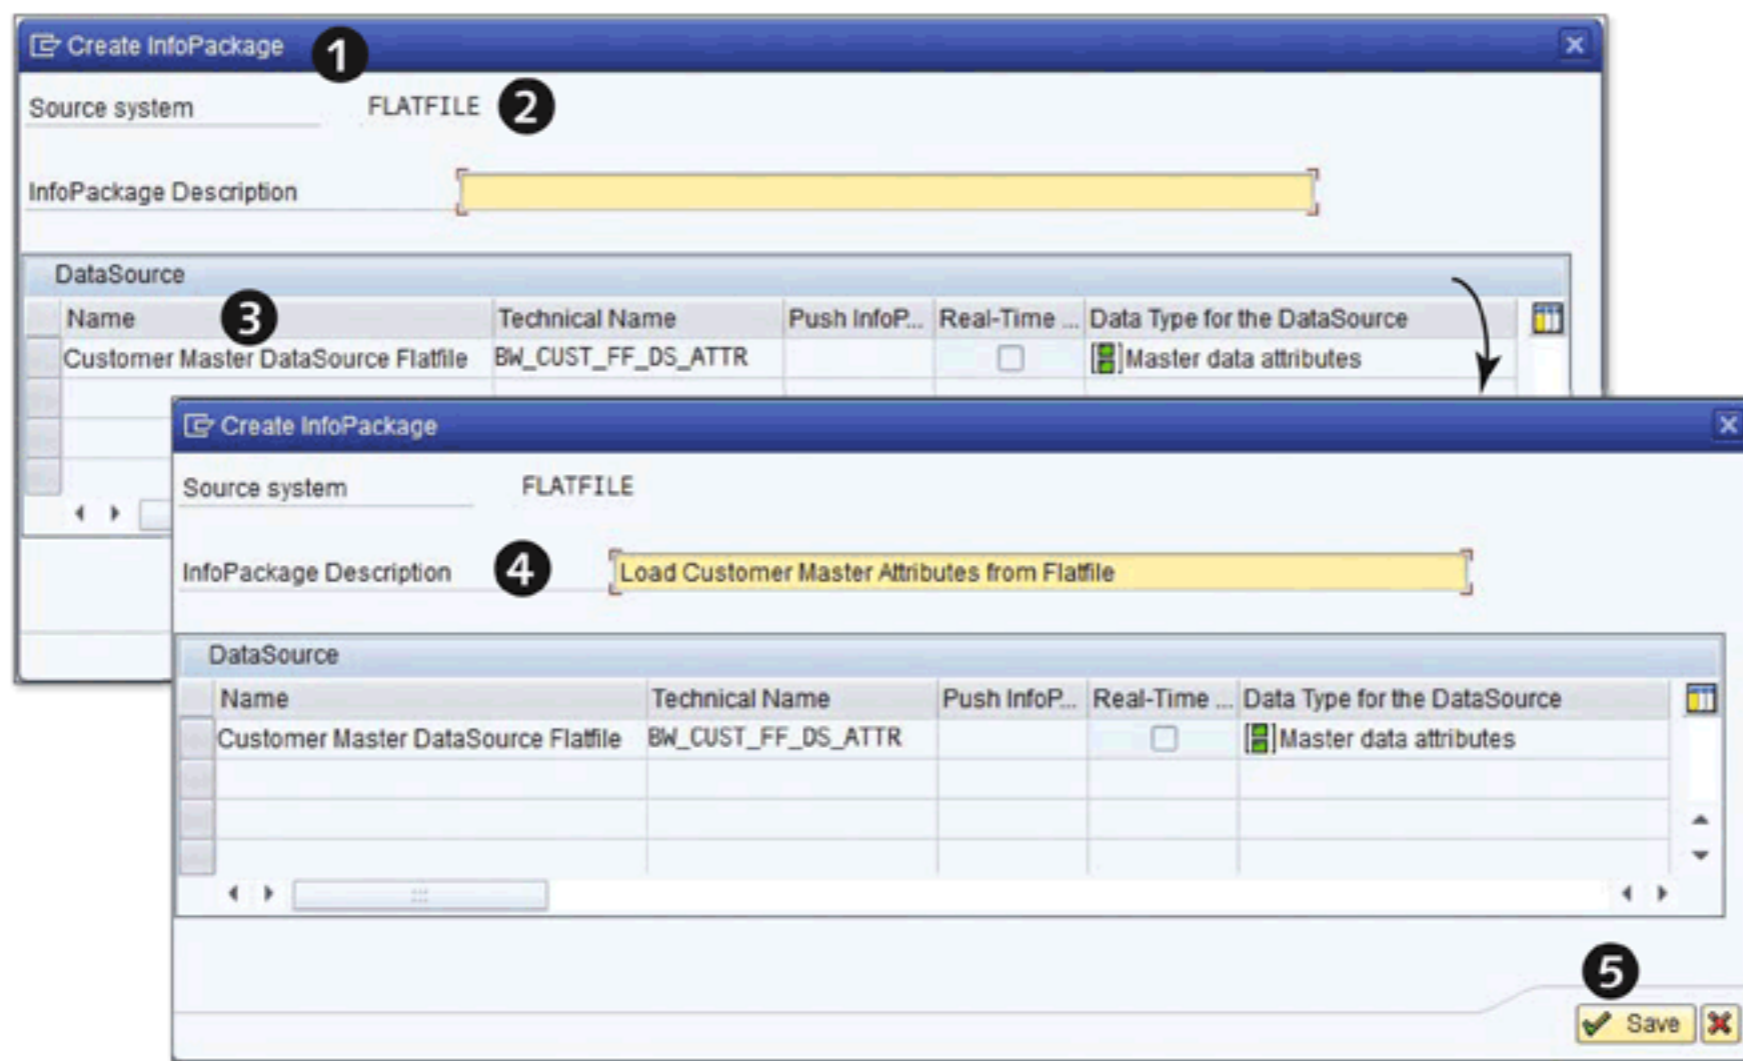

Figure 7.31 Entering an InfoPackage Description
Open the context menu, and select CREATE INFOPACKAGE (❷). This action results in the CREATE INFOPACKAGE screen (❶ of Figure 7.31), which also displays the source system (❷) and DataSource (❸) under which the InfoPackage is created. Enter the description (❹), and click on the SAVE icon (❺).